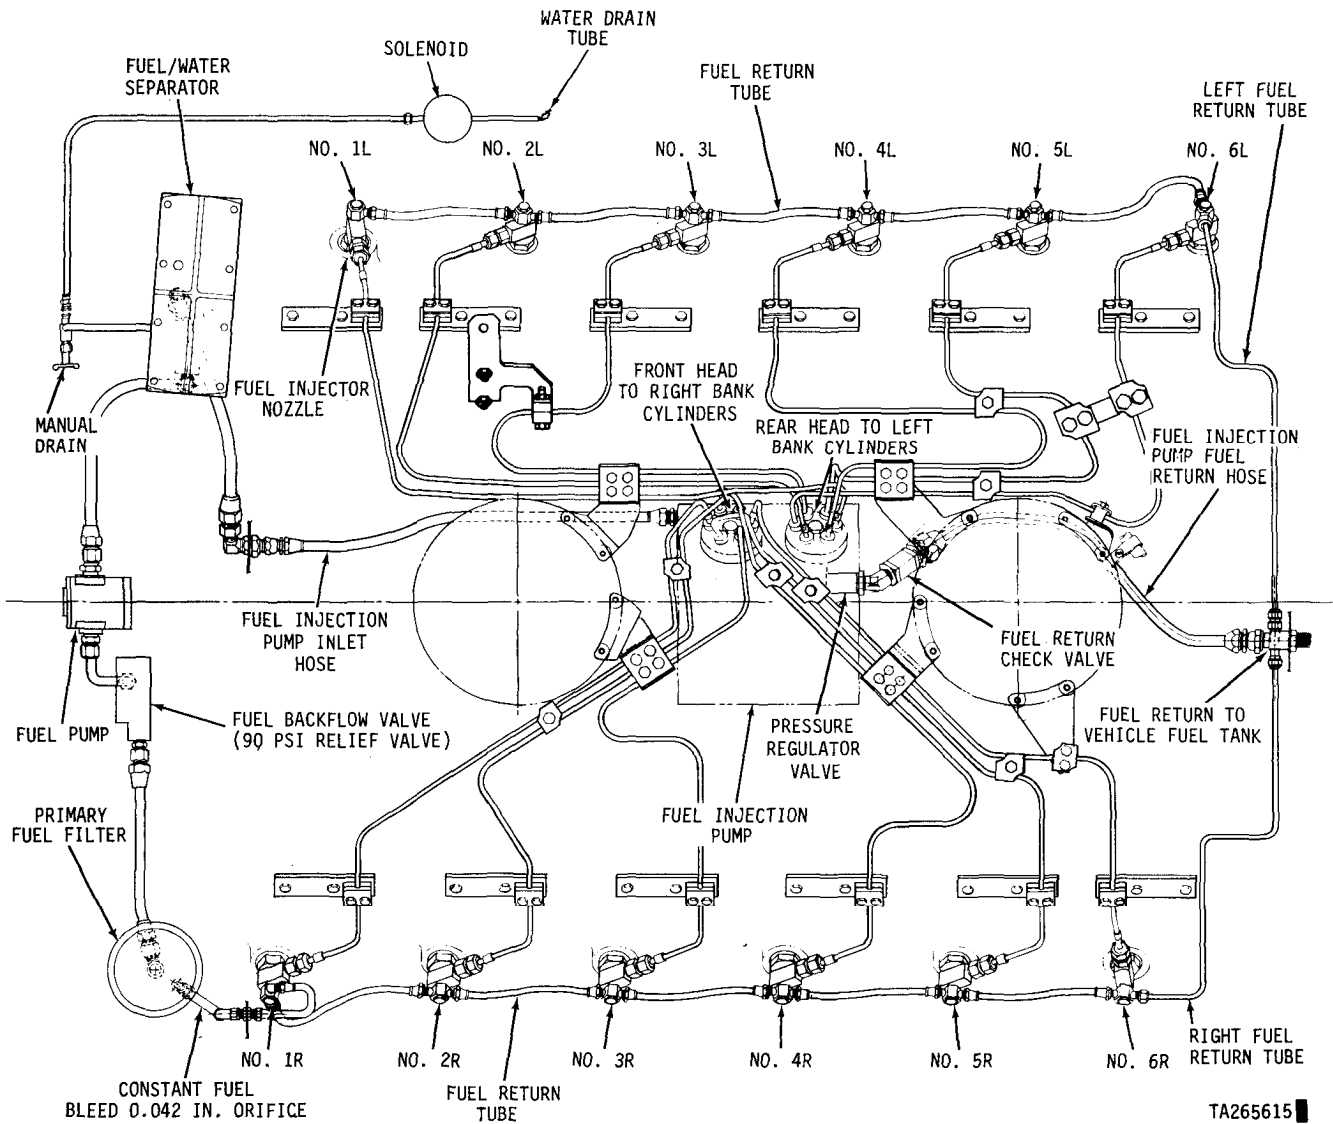
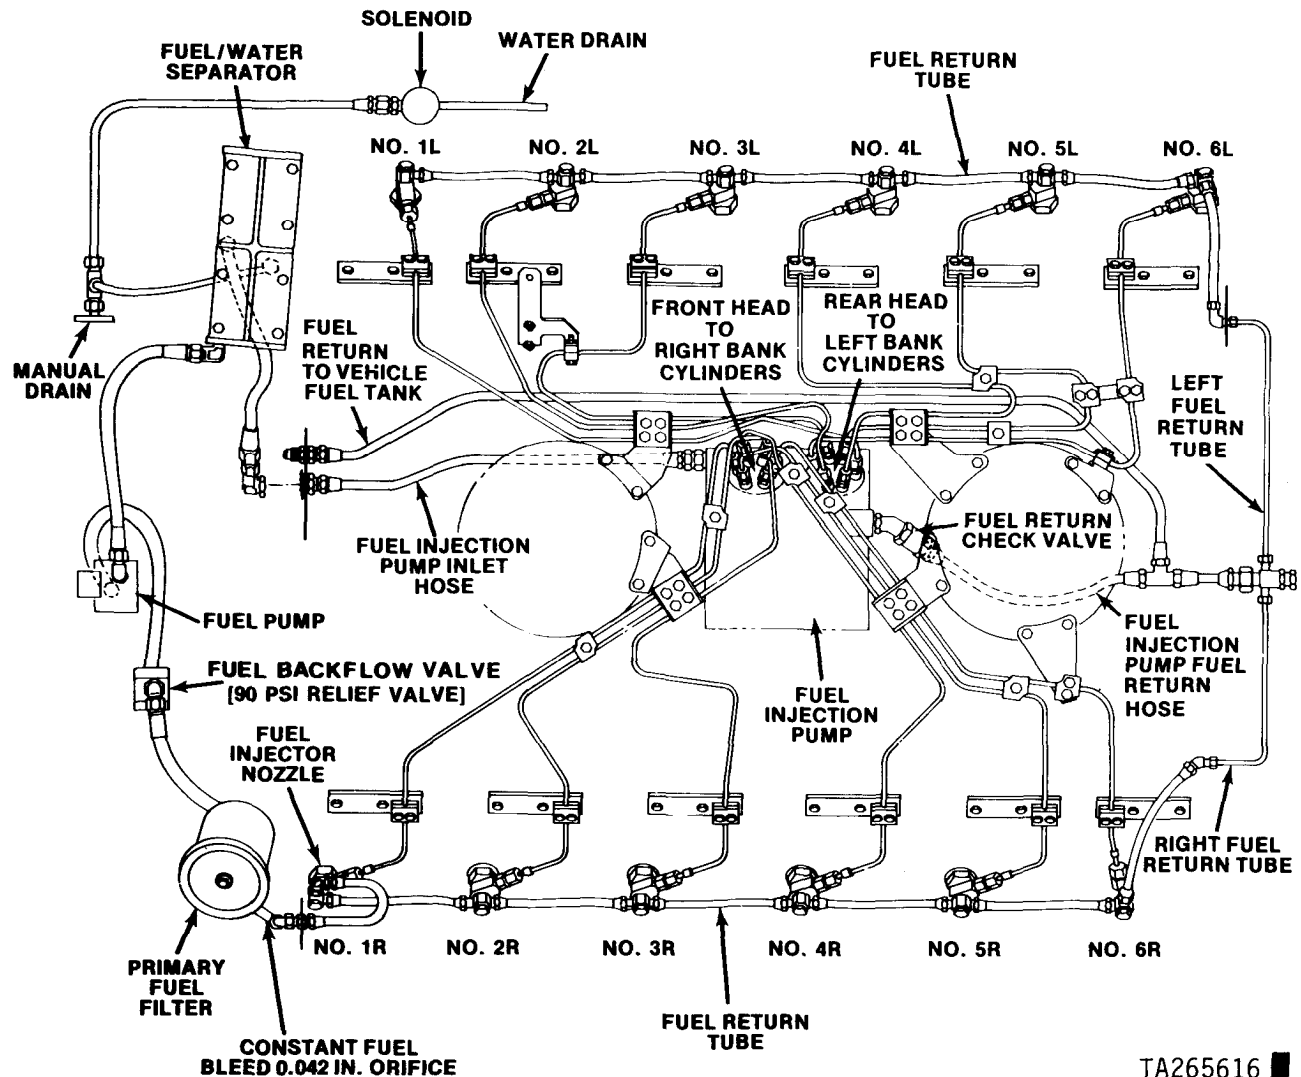

Figure 1-11. Main fuel system - schematic diagram, models AVDS-1790-2C and AVDS-1790.2D.
Figure 1-11.1. Main fuel system - schematic diagram, Model AVDS-1790-2DR only.
c. Fuel Injector Nozzles and Tubes. Twelve fuel injector nozzles (fig. 1-11), one per cylinder, are used to inject fuel into the combustion chambers. Twelve fuel injector tubes of equal length carry the fuel from the fuel injection pump to the nozzles. The nozzles on each cylinder bank are interconnected by fuel return lines to provide a path for the return of excess fuel.
stantly removes a metered amount of fuel and returns it to the main fuel tank through the fuel injector nozzle drain lines. This continuous drain, from the bottom of the filter, removes water in the free state that has been filtered from the fuel by the primary fuel filter element. The replaceable element fuel/water separator type filter is mounted on the left front of the engine. Fuel from the vehicle fuel tank passes through the primary filter before entering the engine fuel pump. The pump delivers fuel to the fuel/water separator filter and on to the fuel injection pump. Excess fuel provides pump cooling as it flows through the fuel injection pump hydraulic heads and is returned to the fuel tank (figs. 1-11 and 1-11.1) The fuel/water separator filter unit has three replaceable ele-
g. Fuel Return Check Valve. A fuel return check valve (fig. 1-11 and fig. 1-11.1) is installed between the fuel injection pump fuel return outlet and the fuel return hose assembly. The valve prevents fuel flowing back to the injection pump when the fuel supply is closed.